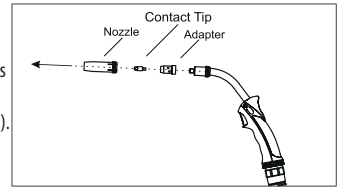

Figure 8: Removing the Nozzle, the Contact Tip and the Adapter
- To change the liner; remove the nozzle, the contact tip and the adaptor respectively (Figure 8).